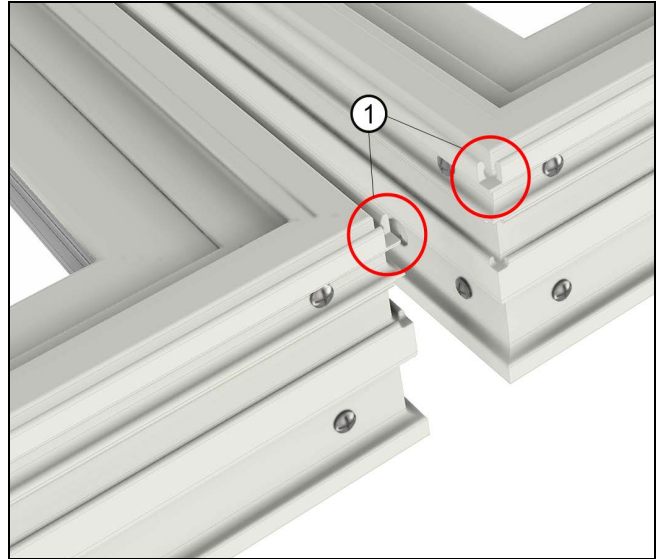

Figure 3
5. For J-Channel applications: At the corners of the mullion, carefully remove the outer wall of the accessory kerf with a hacksaw. See Figure 3. (Sliding window sills are already notched.)